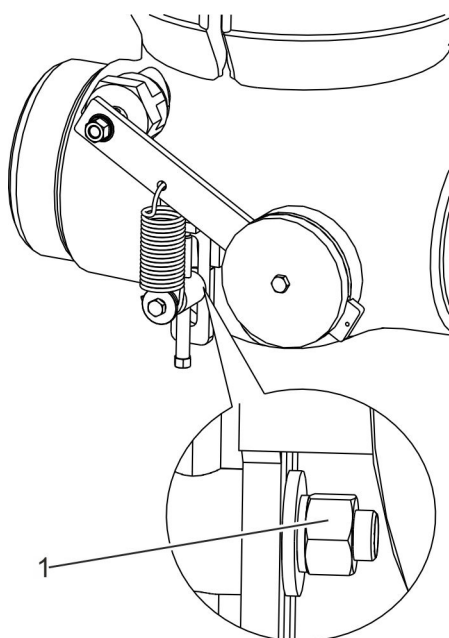

Fig. 18: Tightening the nut
- 3.** Tighten the nut (Fig. 18/1) of the tensioning device.